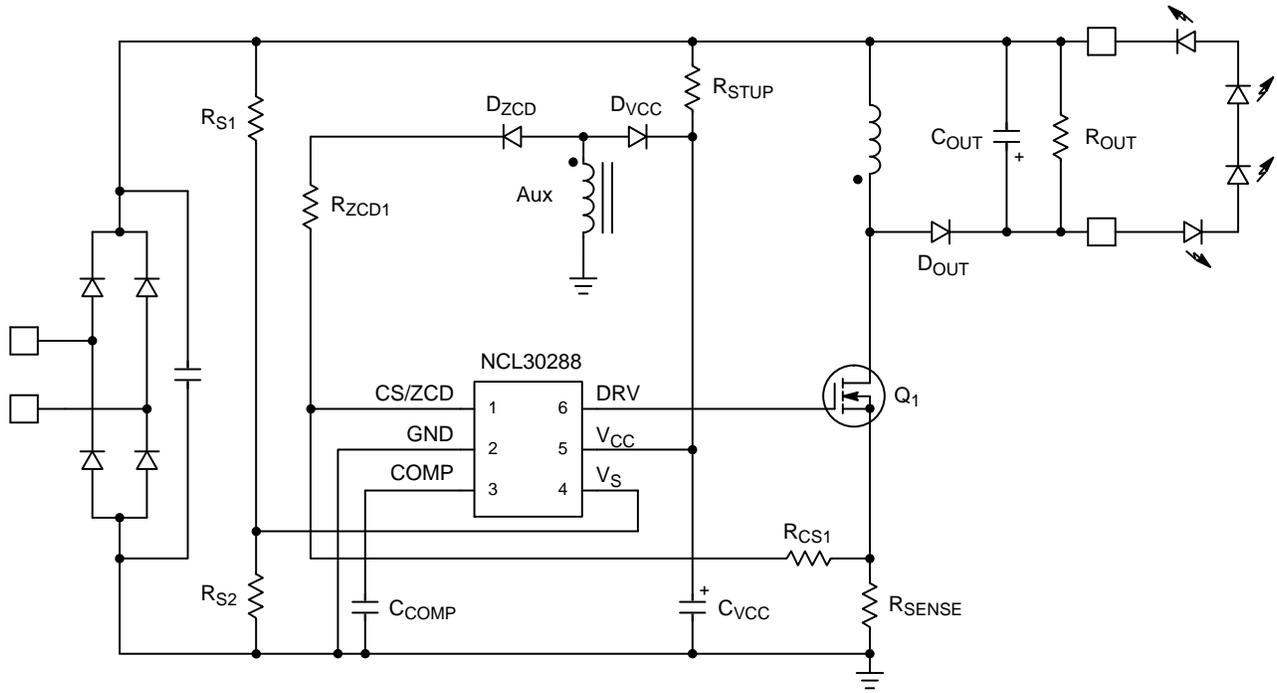
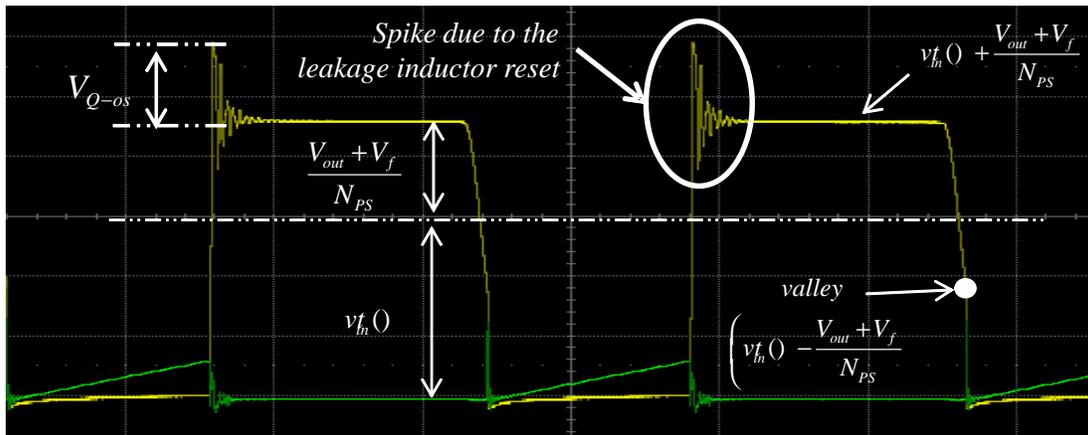

Figure 2. Basic Schematic – Buck-Boost LED Driver
Figure 4. MOSFET Drain-source Voltage (Yellow Trace) and Current (Blue)
Where V_f and V_D are the forward voltage of respectively, the output diode and of the diode providing V_{CC} from the auxiliary winding (D_{VCC} of Figure 2).
In general, N_{SP} , the primary to secondary transformer turns ratio ($N_{SP} = n_p / n_s$)² is selected as high as possible so that the input current stress is reduced. Now, N_{SP} cannot be too large for two reasons. First Equation 8 describes the limitation due to the NCL30288 duty ratio range. In addition, the higher N_{SP} , the larger the voltage reflected into the primary side during the off-time (see Figure 4). Hence, N_{SP} must be low enough to limit the voltage stress across the primary-side MOSFET. Indeed, the voltage to be sustained by the primary-side MOSFET and the output diode are:
- V_{Q-ov} is the MOSFET overvoltage caused by the leakage inductance reset (see Figure 4). This overshoot is limited by the clamping network consisting of D_C , C_C and R_C of Figure 2.